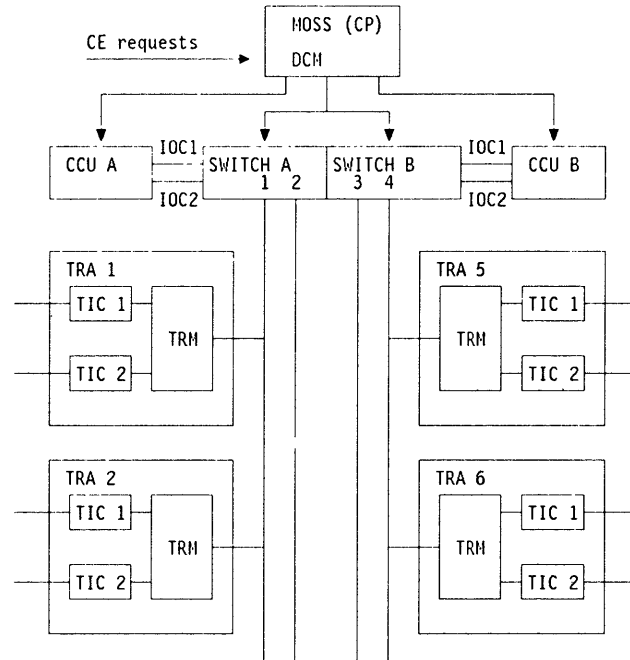
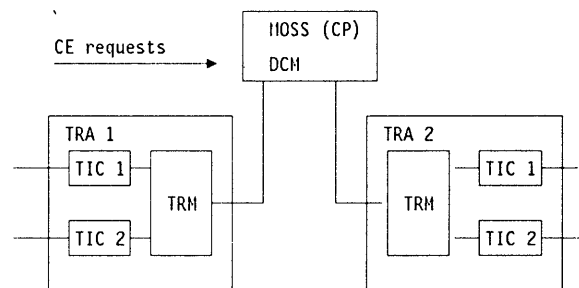

Figure 6-1. Functions Covered by TRSS Diagnostics for Models 210, 310, 410, and 610
Figure 6-2. Functions Covered by TRSS Diagnostics for Models 130, 150, and 170
**Note:** TIC 1 and TIC 2 as shown in Figure 6-1 and Figure 6-2 represent the position of the TIC cards on the TRA (not the type as in TIC1 and TIC2).